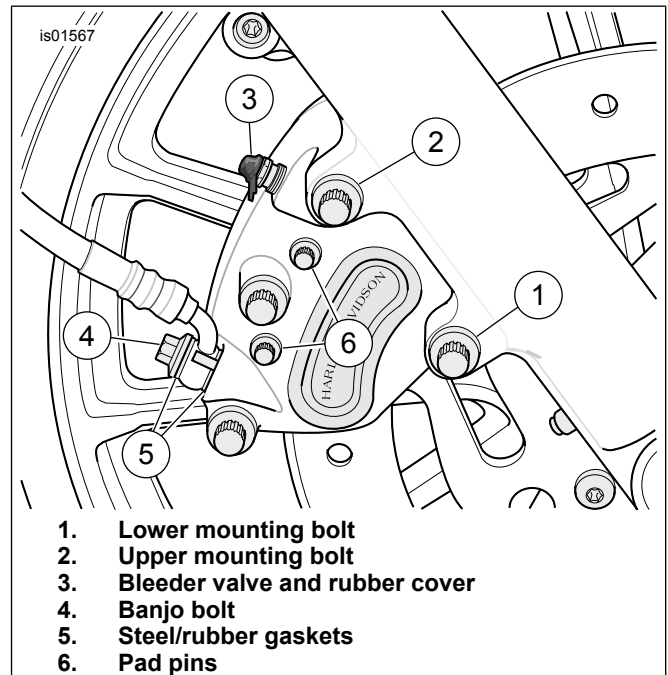

Figure 1. Remove Existing Caliper
1. See Figure 1. Remove the banjo bolt (4) and both steel/rubber gaskets (5) to detach front brake line from caliper. Retain banjo bolt. Discard gaskets.
2. Loosen but do not remove pad pins (6).
- Remove the upper (long) (2) and lower (short) (1) mounting bolts securing caliper to fork leg. Lift caliper upward to remove from brake disc. Discard caliper and bleeder valve cover but save mounting bolts.